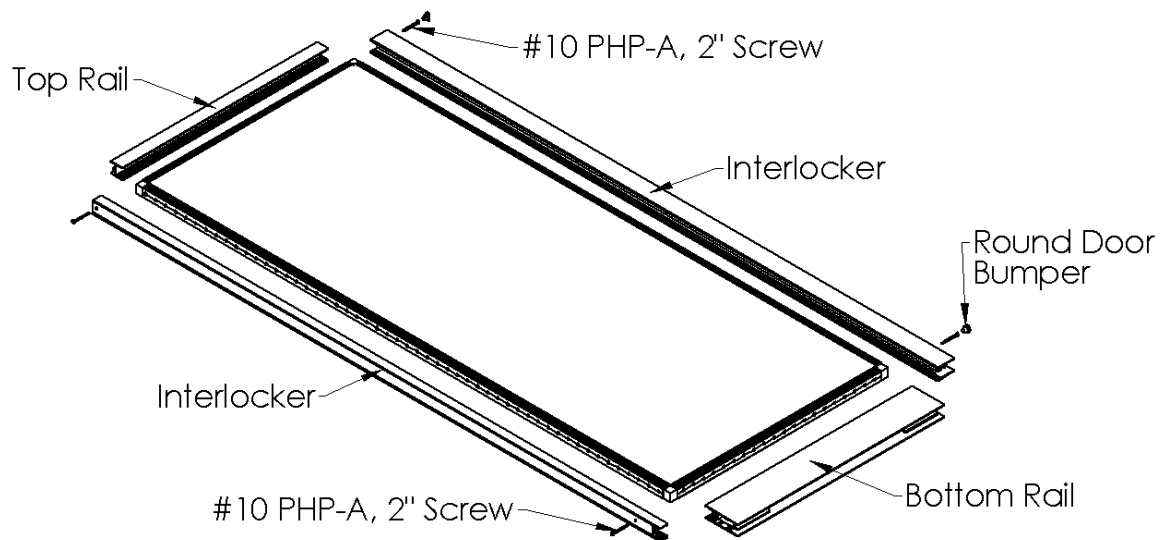

Figure 10:
- Secure the stiles to the rails with (4) #10 x 2" pan head screws. Add wax to the ends of all fasteners to reduce the drive torque required for installation.
- Insert vinyl plugs at top and bottom of stiles (Figure 10).